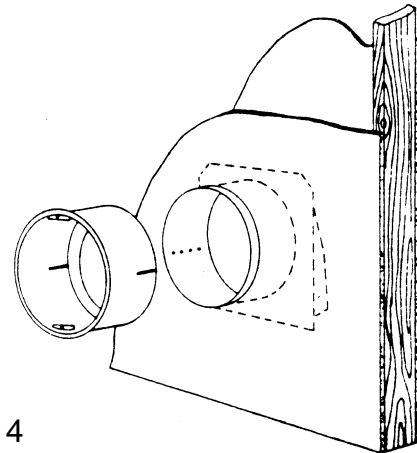

Fig. 4
3. Working from inside the house, slide inside sleeve into place temporarily. Determine whether to remove one or both knockouts from outside sleeve, permitting outlet box to drop through. Remove knockouts from outside sleeve. (See Figure 4.)
6. Working from inside the house, slide inside sleeve into place temporarily. Determine whether to remove one or both knockouts from outside sleeve, permitting outlet box to drop through. Remove knockouts from outside sleeve. (See Figure 4.)